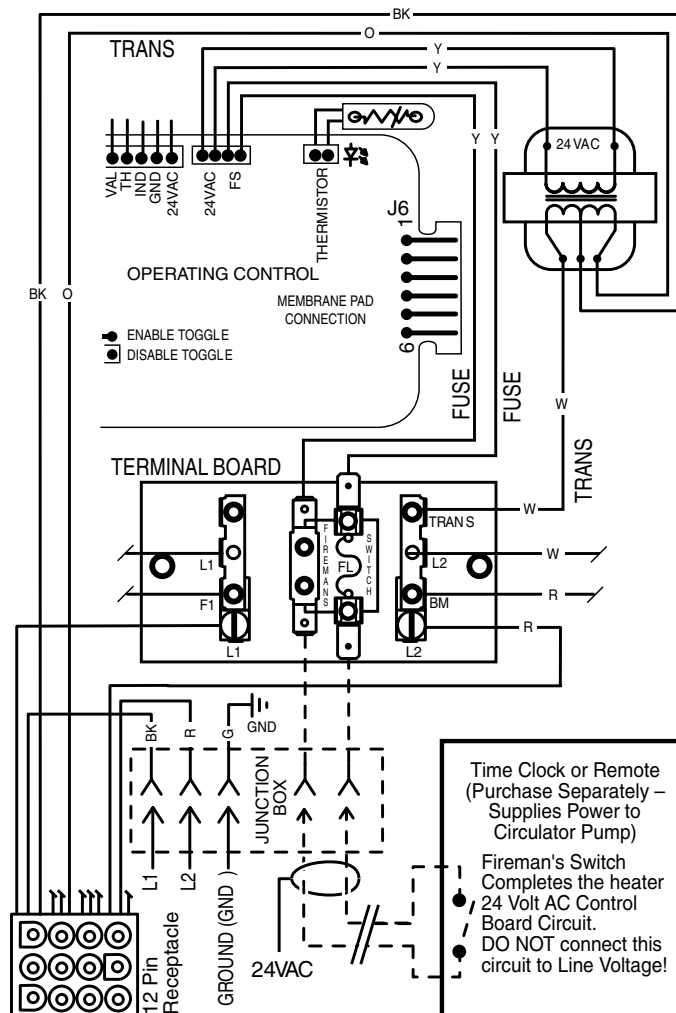
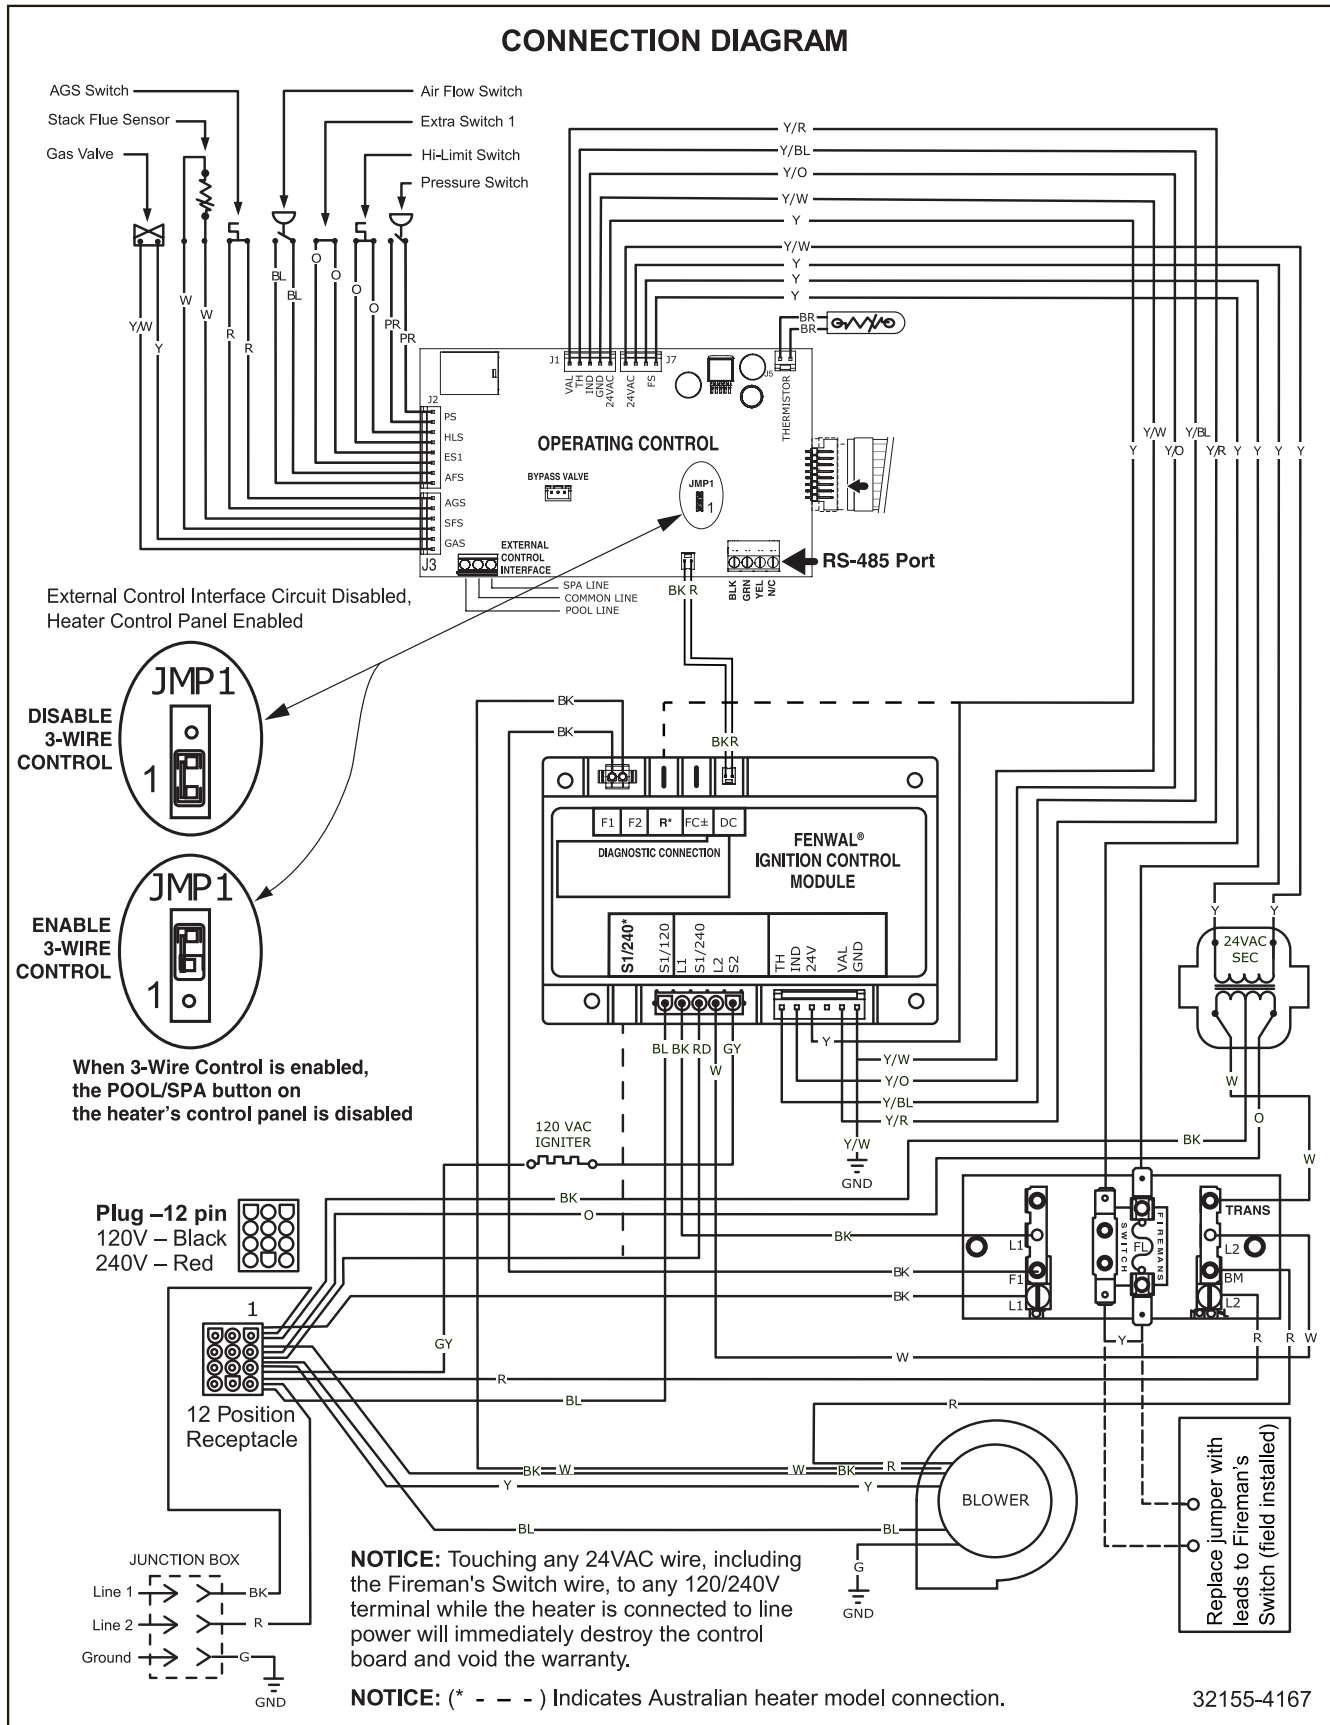

Figure 31.
Figure 37.
- Connect wires between the Fireman's Switch terminals on the heater and the relay. Connect wires from the controller or timer to the Fireman's Switch. Controller, timer or relay should be sized to handle 24VAC at 0.5 Amp (because it will be completing the 24VAC control board circuit on the heater as shown in Figure 31 and Figure 37 (page 40). DO NOT apply line voltage to the Fireman's Switch terminals. Use 18 gauge wire with a minimum 1.2 mm (3/64 in.) thick insulation rated for a temperature rise of at least 105° C.
- Connect wires between the control board terminals on the heater and the external relays, as shown in Figure 37, on page 40. Use at least 2 relays per heater, to allow for an "OFF setting" on each heater mode. Select relays that can handle logic level switching. DO NOT apply line voltage to control board terminals.